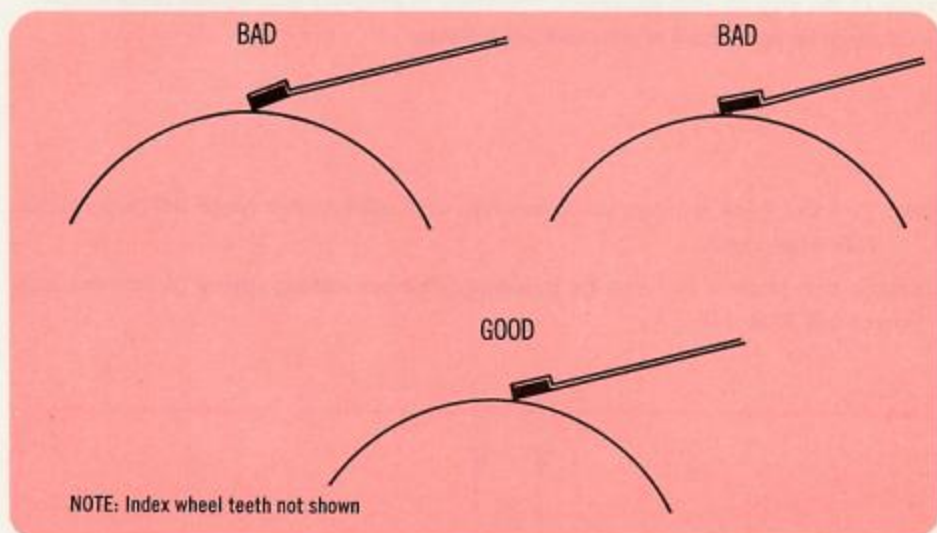

Fig. 15
2. The lower surfaces of the index and pawl jewels must be parallel to their respective fingers, as shown in Fig. 15. Correction of this alignment is rarely required. It can usually be accomplished, if necessary, without breaking the cement attaching the jewel to the finger by exercising watchmaking care. Grasp the finger with tweezers, close to the jewel, and press lightly on the end of the jewel or finger in the proper direction with pegwood, to correct the alignment of jewel and finger.